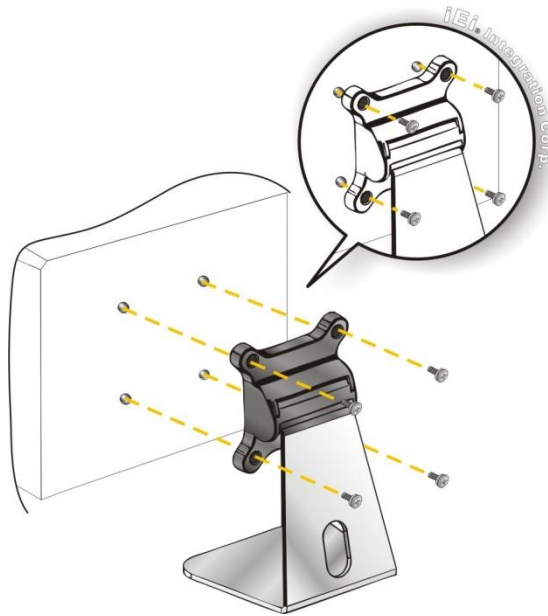

Figure 3-43: Monitor Stand Mounting
- Step 2:** Secure the monitor to the stand with the supplied retention screws (.Figure 3-43).